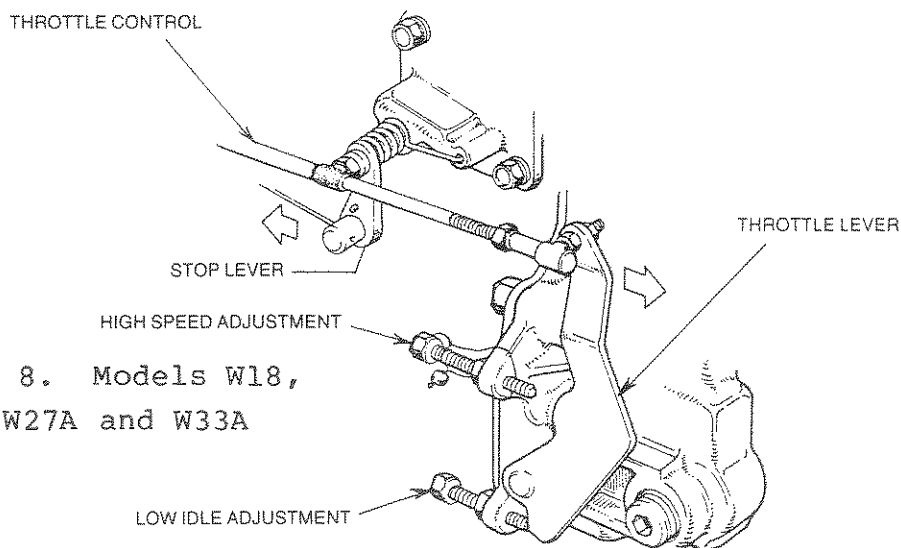

Figure 8. Models W18, W21A, W27A and W33A
2. Models W18, W21A, W27A and W33A (See Figure 8)